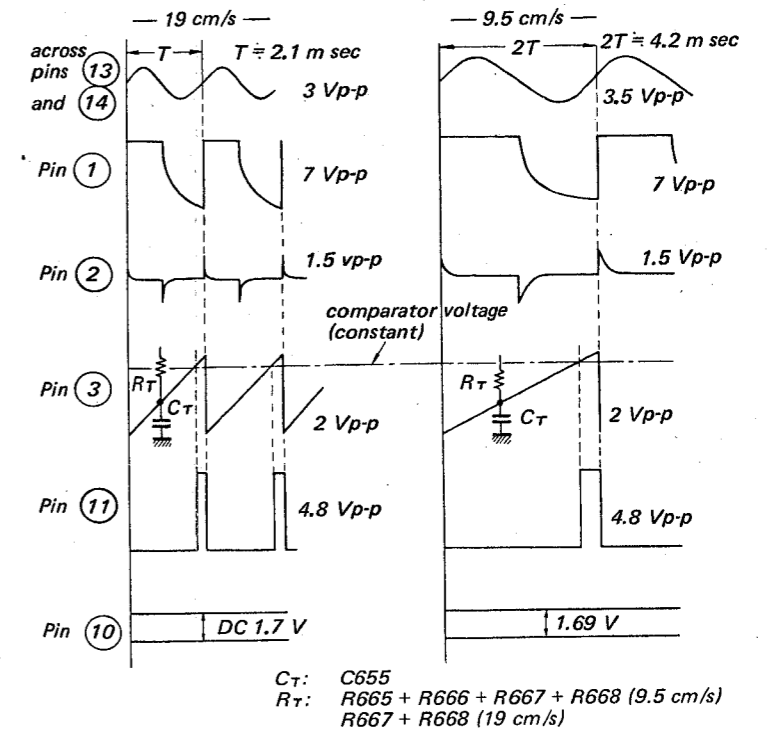

Fig. 2. Waveform relationship for tape speeds of 19 cm/s (7½ ips) and 9.5 cm/s (3¾ ips) at IC651 pins.
Waveform relationship for tape speeds of 19 cm/s (7½ ips) and 9.5 cm/s (3¾ ips) are shown in Fig. 2. Output signal at pin ⑪ of IC651 passes through the hunching-preventing C-R filter and the dc component is amplified by Q901 and is applied to the motor circuit in series. When the motor speed lowers, signal to discharge C655 is not obtained and the sawtooth signal amplitude exceeds the comparator voltage, and broad-width pulse is obtained at pin ⑪ of IC651. Thus dc amp input increases and the motor speed increases.